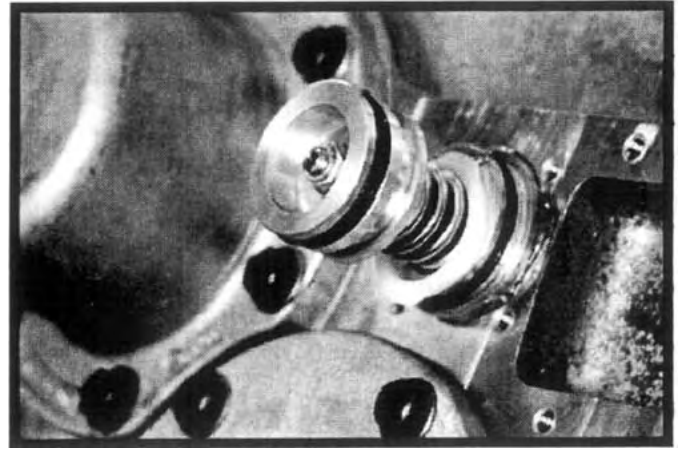

Figure 6.55
43. Install a new piston O-ring in the deeper groove in the piston. Position the piston on the shifter shaft. The end of the piston with the O-ring must face outward. Push the piston down to compress the spring and install the shifter shaft washer and locknut. See Figure 6.55. Torque the nut to specification.